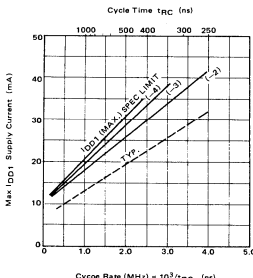

Fig. 2  $t_{RC}$  vs  $I_{DD1}$
- $I_{DD1}$ ,  $I_{DD3}$  and  $I_{DD4}$  depend on cycle rate. See figures 2, 3 and 4 for  $I_{DD}$  limits at other cycle rates.
rent waveforms in Fig. 5) In system applications requiring lower power dissipation, the operating frequency (cycle rate) of the TMM416P can be reduced and the (guaranteed maximum) average power dissipation of the device will be lowered in accordance with the IDD1 (max.) spec limit curve illustrated in Fig. 2.